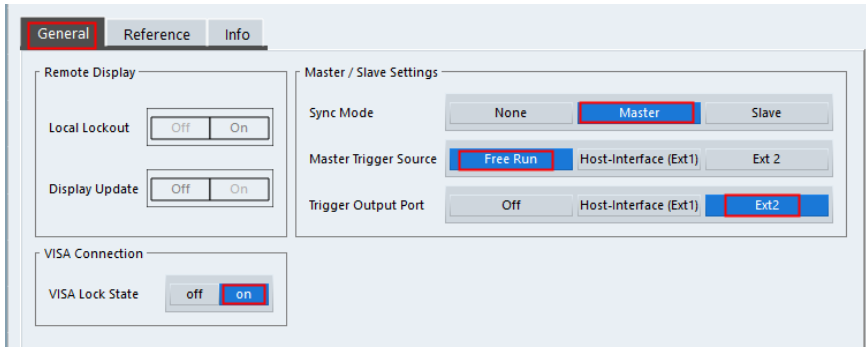
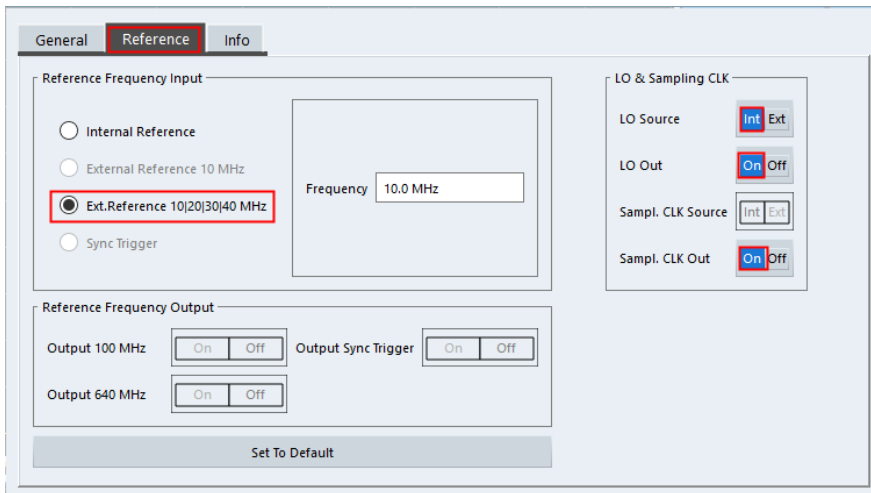

Fig. 4-5 Example of general settings for Master NRQ6,
Fig. 4-6 Reference settings for Master NRQ6
The Master NRQ6 configurations are shown in Fig. 4-5 and Fig. 4-6
1. In tab "General" (See Fig. 4-5), proceed as following:
2. In tab "Reference" (See Fig. 4-6), proceed as following: